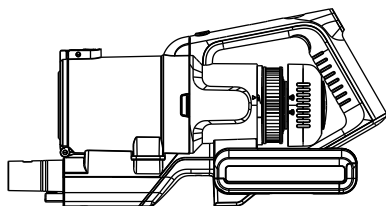

Fig. 19
7. To clean or replace the post-motor filter, turn the cover anticlockwise and lift off the cover (fig. 19), remove the filter (Fig. 20), wash and dry the filter in accordance with step 4.
2. Remove the floor head from the cleaner (fig. 19).